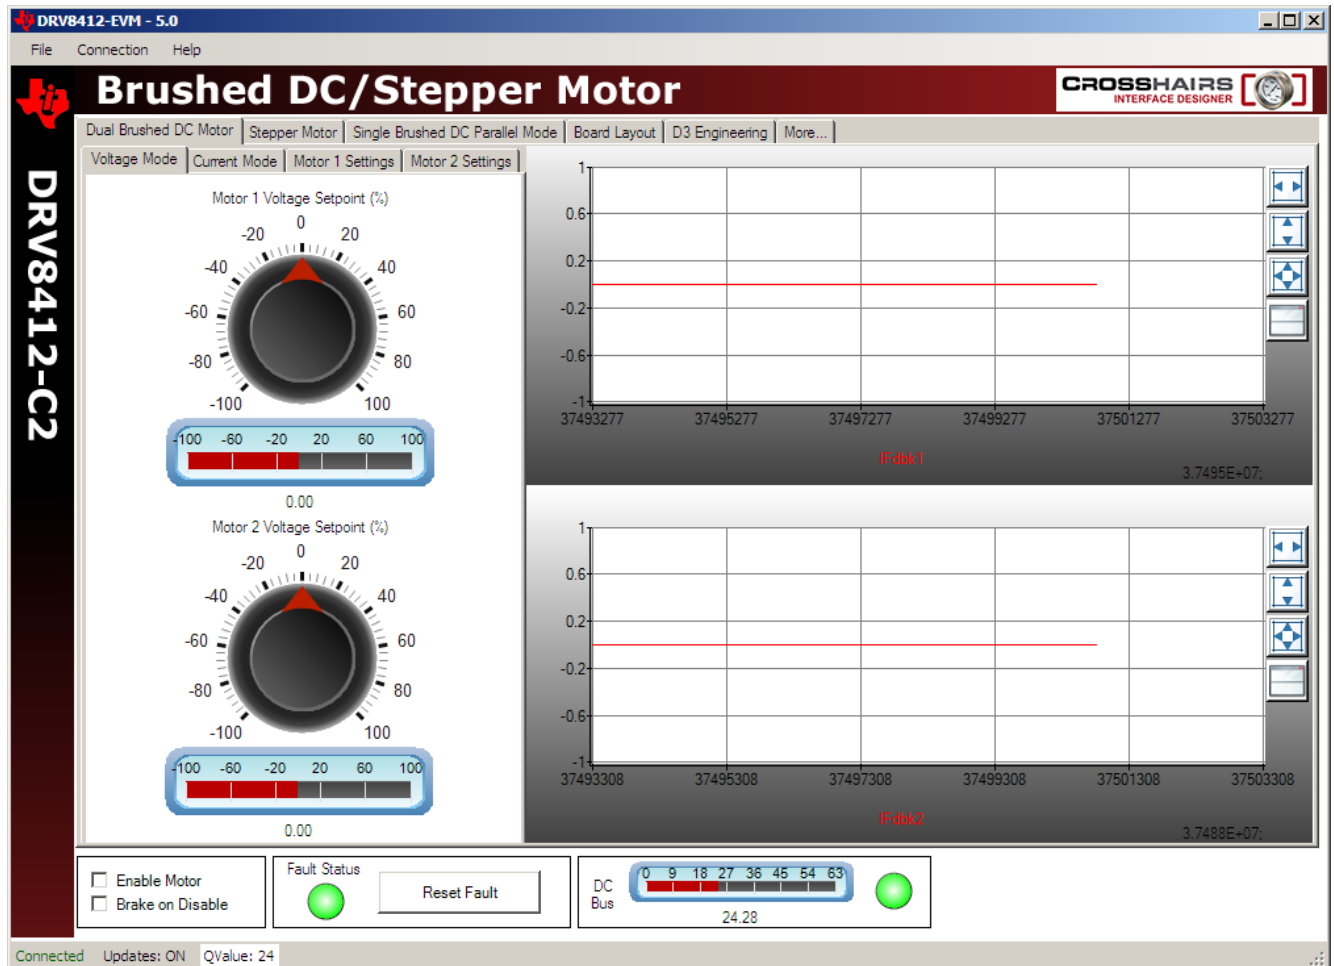

Fig4: GUI Startup
- 2) Browse to and double click on *DRV8412GUIvX.exe*. The GUI window should pop up (Fig 4).